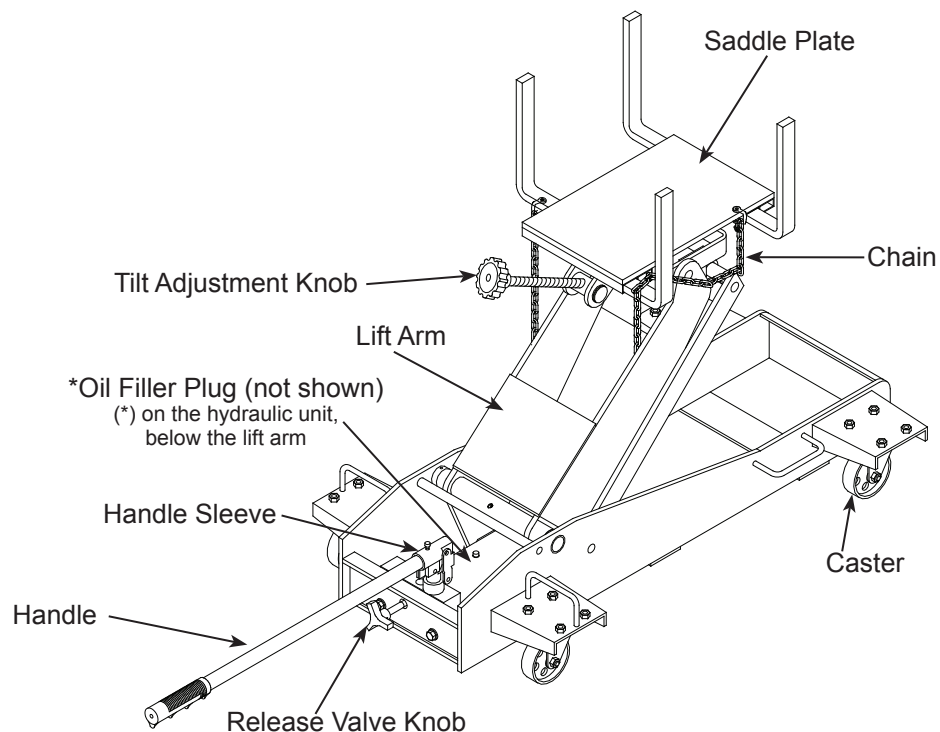

Figure 1- Typical Transmission Jack Components
3. To familiarize yourself with basic operation, locate and turn the release valve knob (*see Fig 1*):